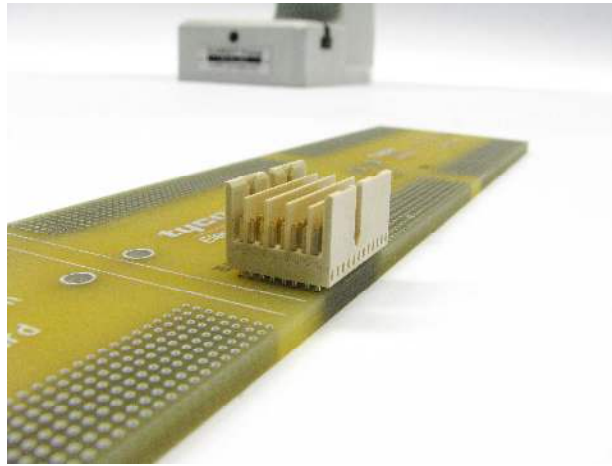

Figure 5
1. At first the male connector is placed onto the pc-board. Make sure that all pins are fitted into the according bores properly (see figure 5).